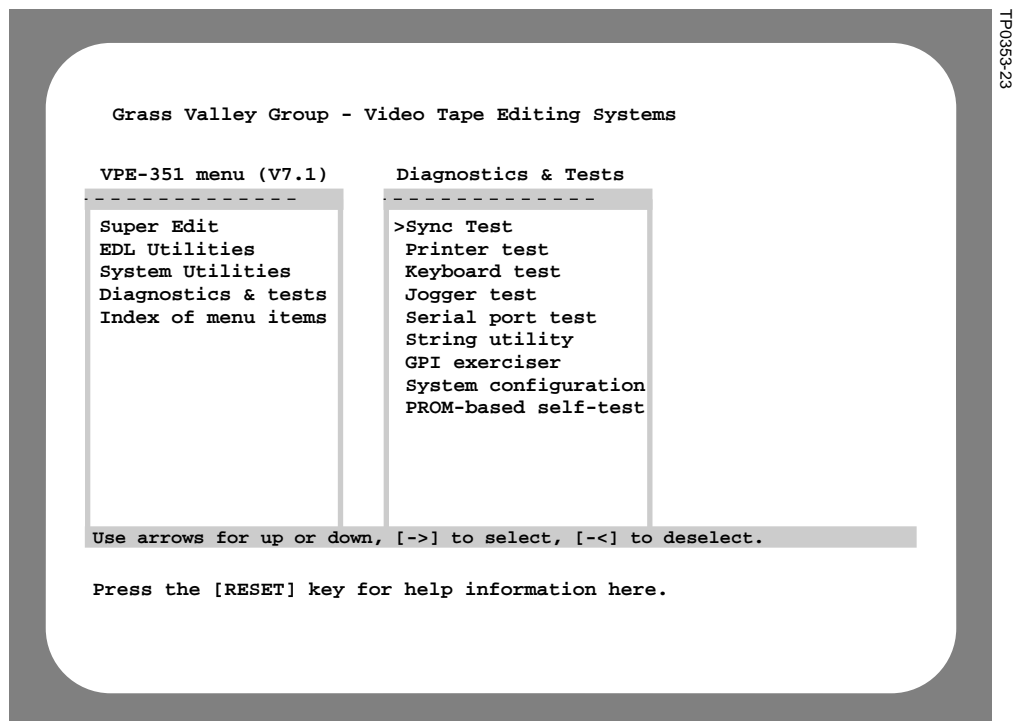

Figure 3-10. Diagnostics & Test Menu
1. Use the [←], [→], [↑], and [↓] keys until the Diagnostics & Tests selection in the left hand column is highlighted and press [ENTER]. The Diagnostics & tests menu appears. (See Figure 3-10 for an example.)